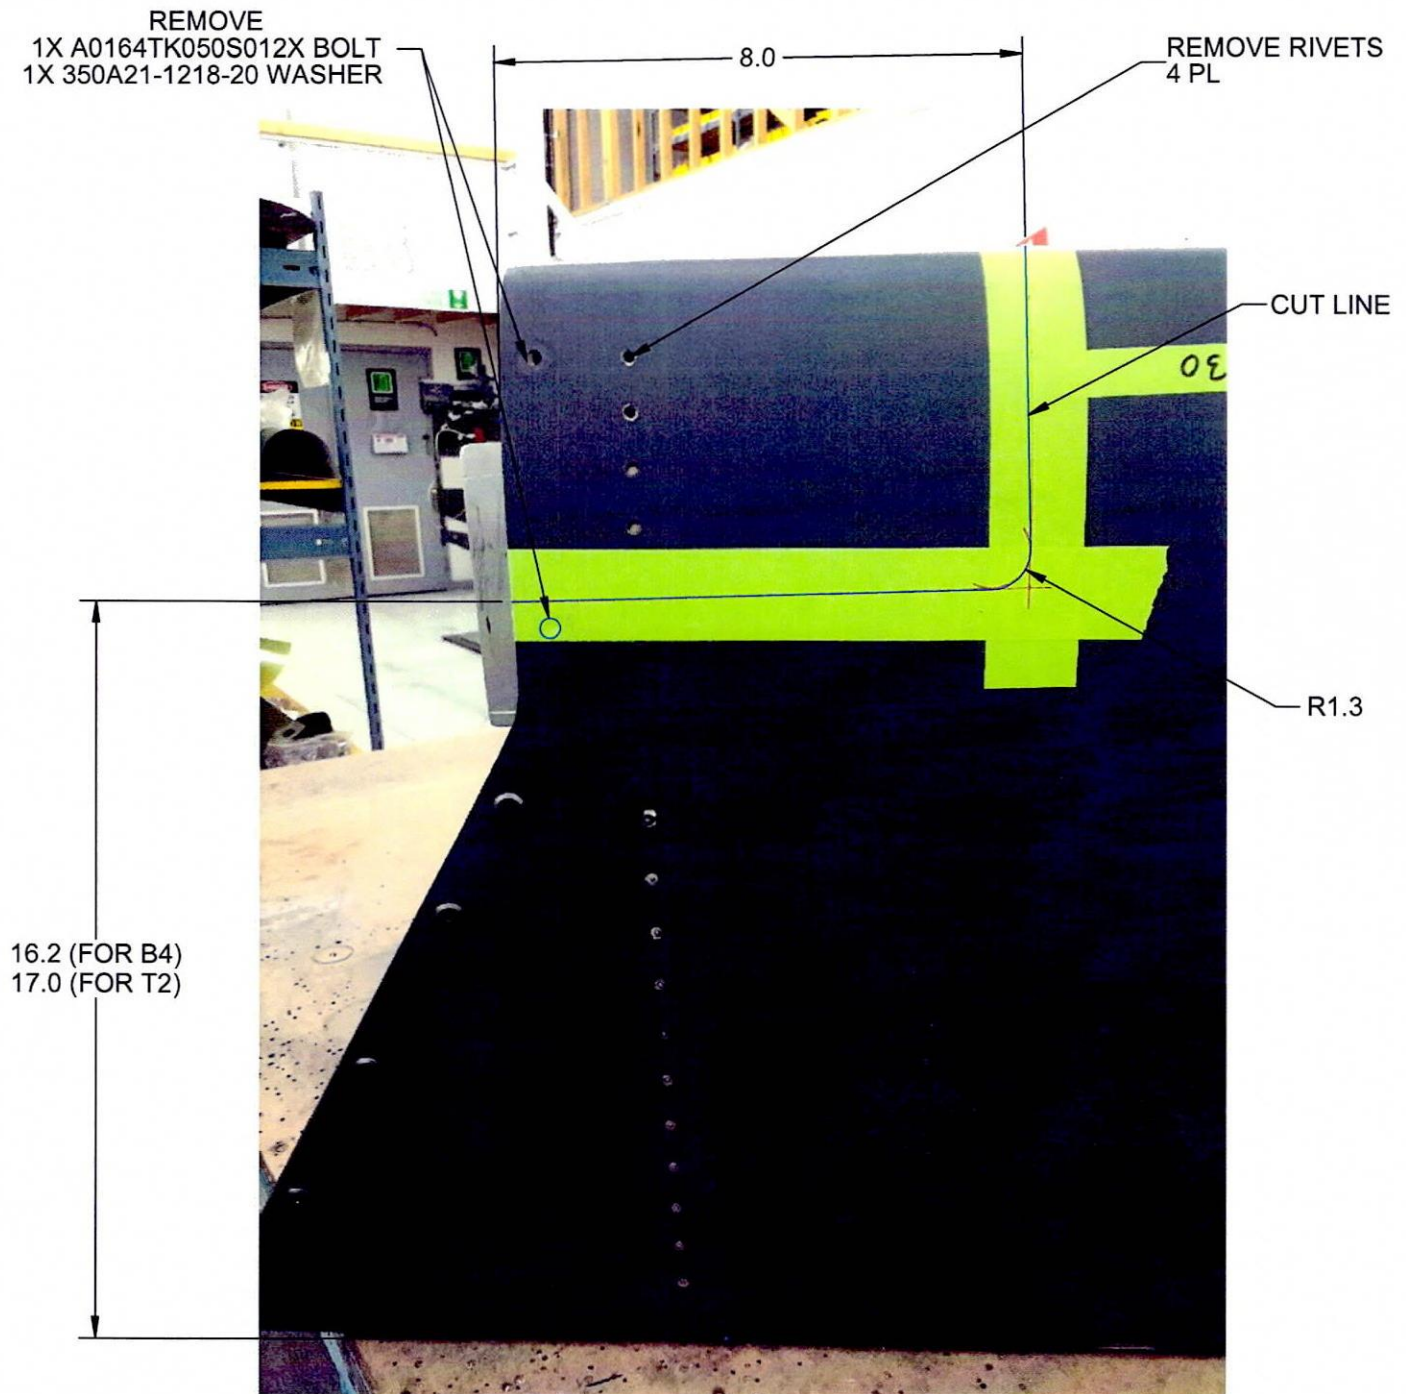
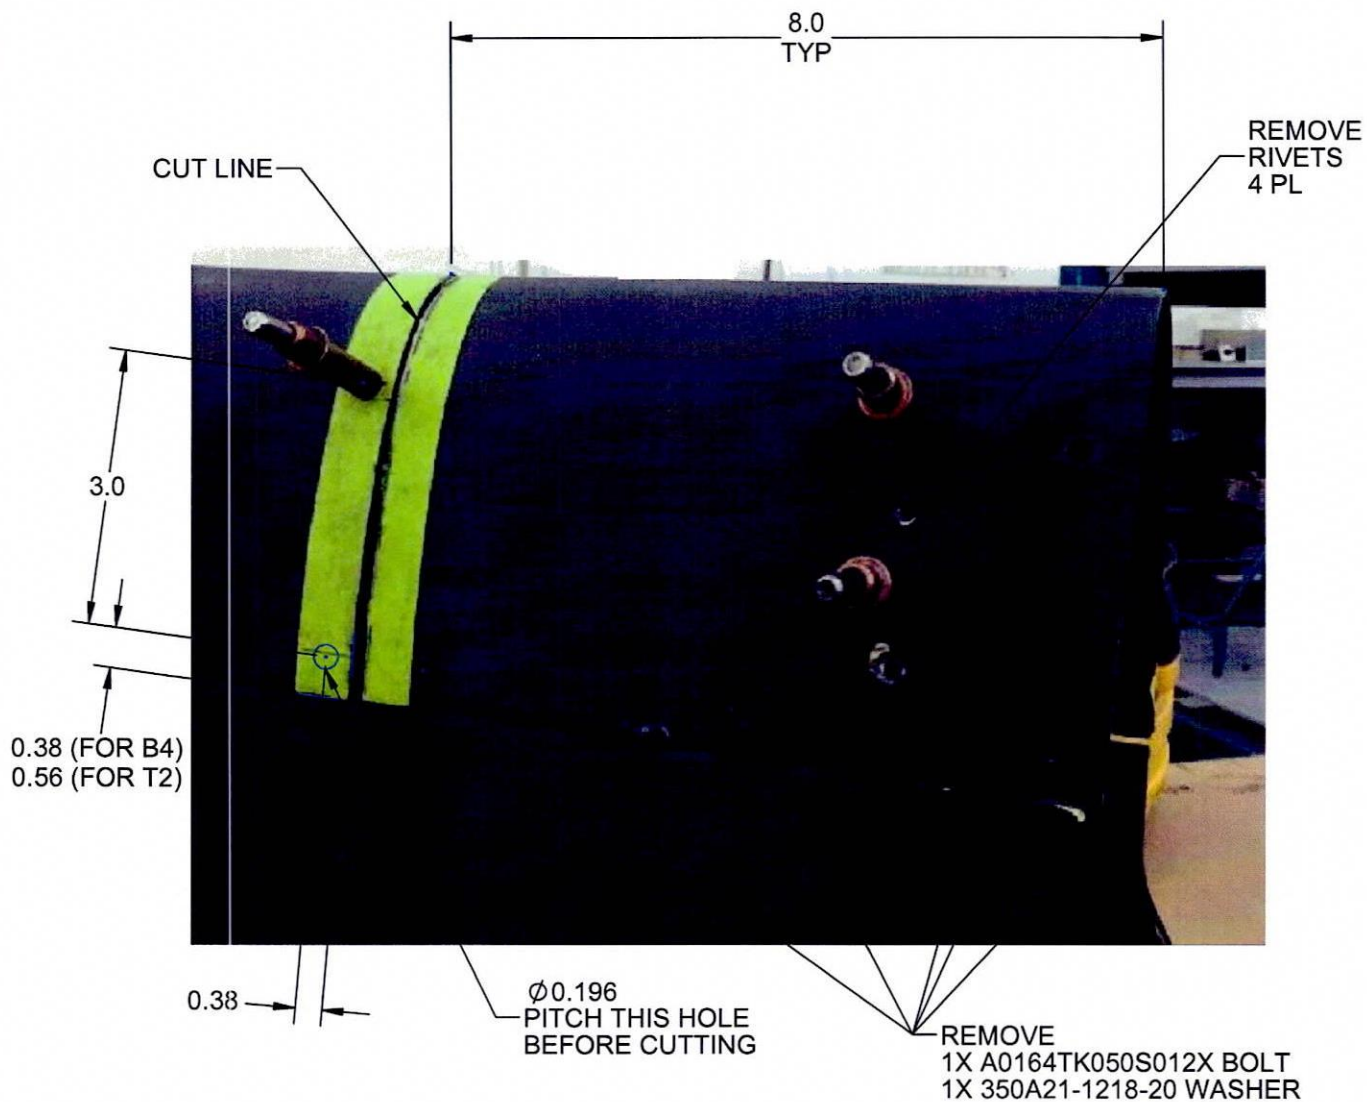
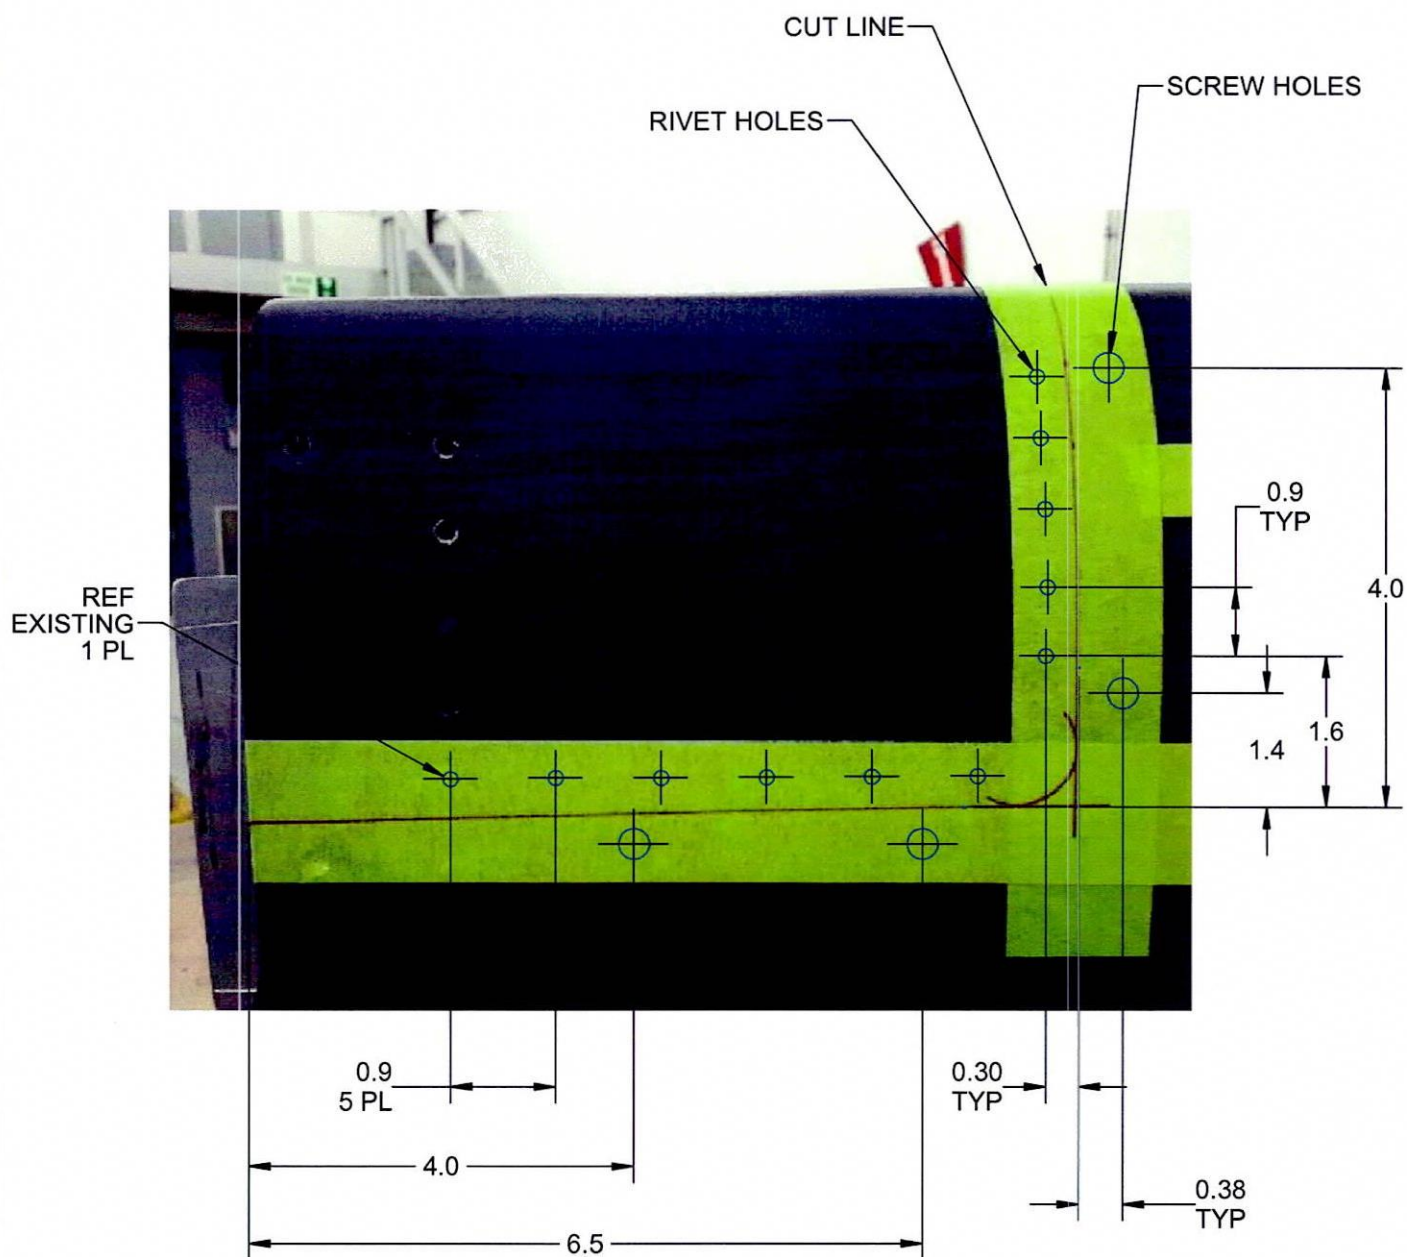

FIGURE 1: CUT DIMENSIONS, OUTBOARD SIDE
FIGURE 2: CUT DIMENSIONS, INBOARD SIDE
FIGURE 3A: HOLE PATTERN, OUTBOARD (FOR EC130 B4)
- 2.1.2. Remove qty(5) A0164TK050S012X bolts and qty(5) 350A21-1218-20 washers from the cap on the LH Fairing and qty (2) A0164TK050S012X bolts and qty(2) 350A21-1218-20 washers on the inside of the Fairing per Figure 1 and Figure 2 and retain hardware. Remove rivets from the top-most rib per Figure 1 and Figure 2.
- 2.1.3. Mark dimensions per Figure 1 and Figure 2. Mark the hole pattern per Figure 3A/B and Figure 4A/B.
- 2.1.4. Pitch one $\varnothing 0.196$ hole in line with the existing screw holes while maintaining edge distance and with the marked dimension per Figure 2. This will help ensure consistent alignment.